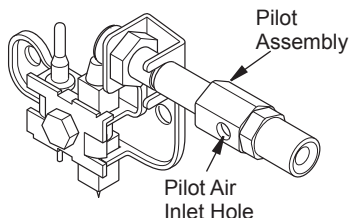

Figure 24 - Pilot Inlet Air Hole
2. Inspect burner, pilot and primary air inlet holes on injector holder for dust and dirt (see Figure 24).
Clean pilot assembly also. A yellow tip on the pilot flame indicates dust and dirt in the pilot assembly. There is a small pilot air inlet hole about 2" from where the pilot flame comes out of the pilot assembly (see Figure 24). With the unit off, lightly blow air through the air inlet hole. You may blow through a drinking straw if compressed air is not available.